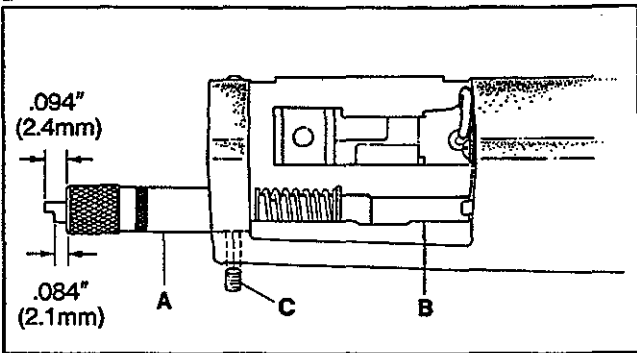
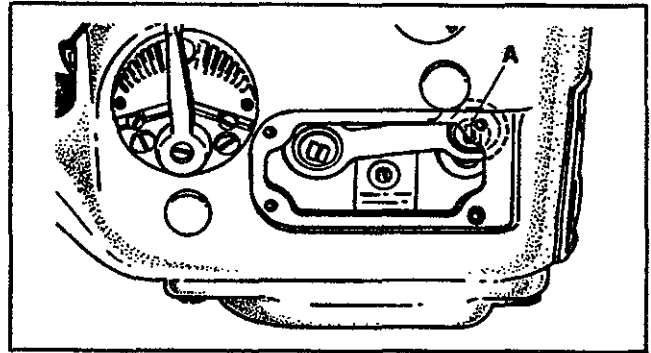

FIG. 12
FIG. 13
The looper avoid is set at .094" (2.4mm). Using gauge no. 21227BV (A, Fig. 12), position looper shaft (B) fully to the rear (away from operator) and insert the gauge through the looper shaft hole in the end of the cylinder until the plunger is fully extended from the gauge. Tighten clamp screw (C). When the looper is positioned fully to the front, the end of the plunger should be flush with the end of the gauge. The motion of the plunger from the extended position to flush represents .094" (2.4mm) travel. If less looper avoid is required, use the other step on the gauge which is .084" (2.1mm). To adjust the looper avoid remove the cylinder cover and loosen screw (A, Fig. 13) with TT-85 wrench. Raise the ball joint to shorten the avoid motion or lower it to lengthen the avoid motion. Tighten screw (A). Reposition gauge (A, Fig. 12) and recheck the setting.